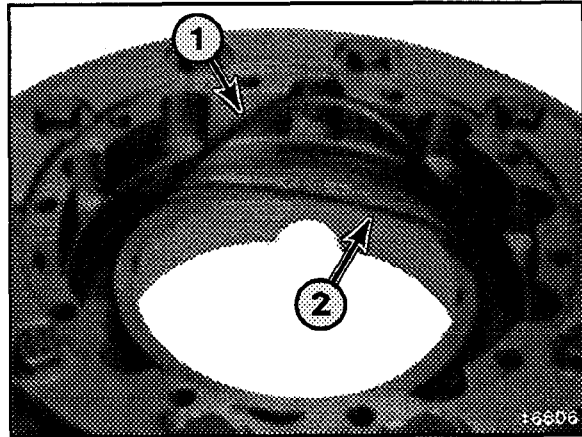

Figure 77
16. Remove seals (1 and 2, Figure 77) from piston bore.